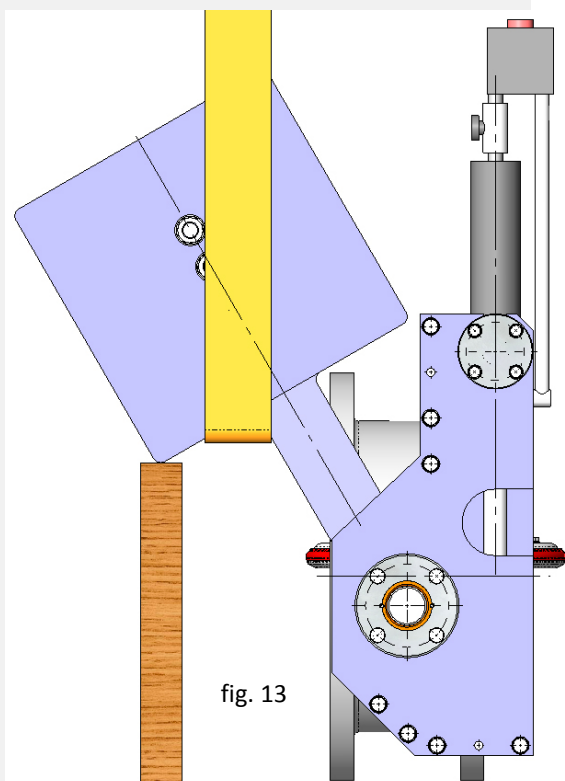

fig. 13
6. Position plugs on both the counterweight (fig. 13) and the disc (fig. 14) to assure the position and work safely.
7. Mark the original positions of the stainless steel seal flanges (4) which secure the seal (3) in the disc (2).
8. Release all the bolts (28, 29) which secure the flange (4).
9. Remove all the flange sectors (4).
10. Remove the deteriorated seal (3).
11. Clean the seal fittings for the disc (2) and seal flange (4).
12. Check that the dimensions of the new seal (3) are exactly the same as the replaced one.
13. Cut the new seal (3) with the required length.